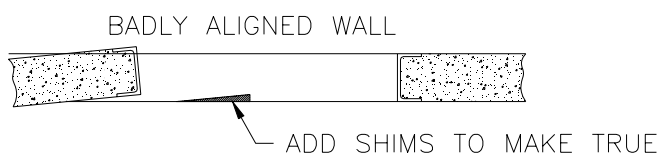

FIG. 2
- If the wall is badly aligned**, shim to make true (Figure 2).